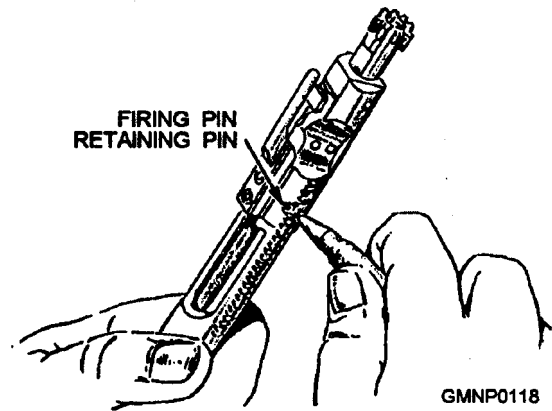

Figure 3-44.—Pressing out the firing pin retaining pin.
5. To disassemble the bolt carrier group, press out the firing pin retaining pin by using a driftpin (fig. 3-44). Elevate the front of the bolt carrier and allow the firing